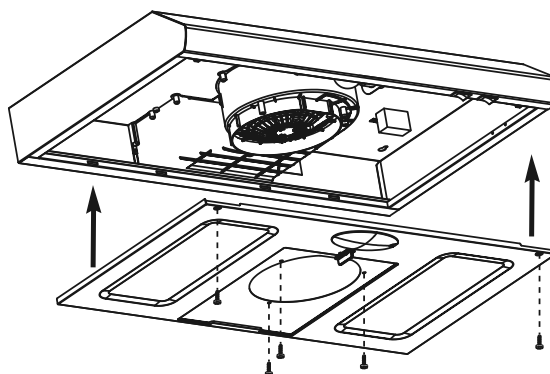

Fig. 17
- Lift the range hood (A) up under the cabinet to determine its final position. Mark the location of the four keyhole mounting slots (1) on the underside of the cabinet.
- Set the range hood (A) aside on a protective surface.
- Screw the four long tapping screws (AA) into the pilot holes. Do not tighten the screws all the way – leave the screw heads about 7 mm (0.28 in) from the cabinet surface.
- Lift the range hood (A) into position, feeding the power cable and the electrical wires through the power access opening. Allow some slack in the cable and wires so that the appliance can be moved if servicing is ever necessary.
- Position the range hood (A) so the large end (2) of the keyhole mounting slots (1) are over the screws (AA). Then push the range hood (A) toward the wall so the screws (AA) are in the neck (3) of the keyhole slots. Tighten the screws (AA). Ensure that the range hood (A) is securely fastened to the cabinet before releasing it.
- If applicable, connect the duct work to the range hood (A). Seal the joints with duct tape to ensure an airtight fit.
- Reinstall the bottom panel and filters as shown in Fig. 17.